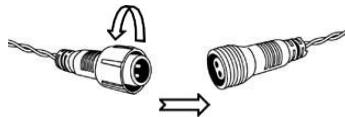

Figure 7
1. Make sure that all the light string plugs within the tree are securely connected. See Figure 7.